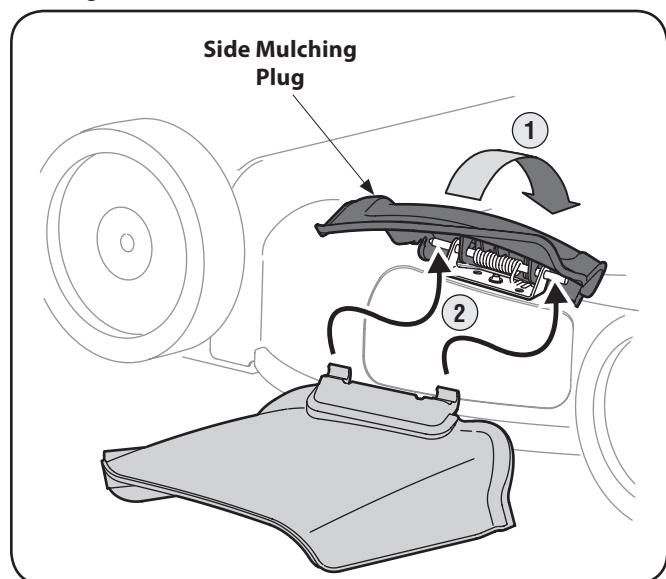

Figure 3-9
- On the side of the mower, lift the side mulching plug. See Figure 3-9.